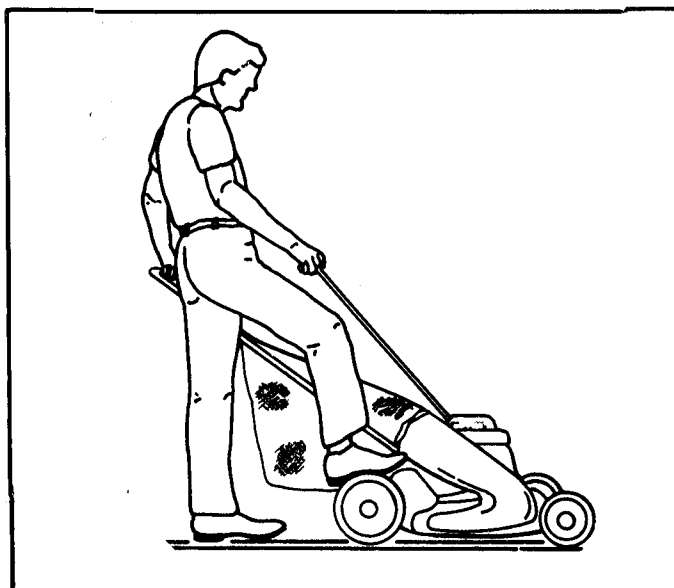

FIG. 3 -- STARTING STANCE (RIGHT SIDE)
**STARTING & STOPPING:** Release BLADE CONTROL to stop engine. Use the following procedure to start the engine. The 2-cycle engine has a primer button — refer to the engine owners manual for priming instructions for these models. Refer to figure 3 for starting stance.